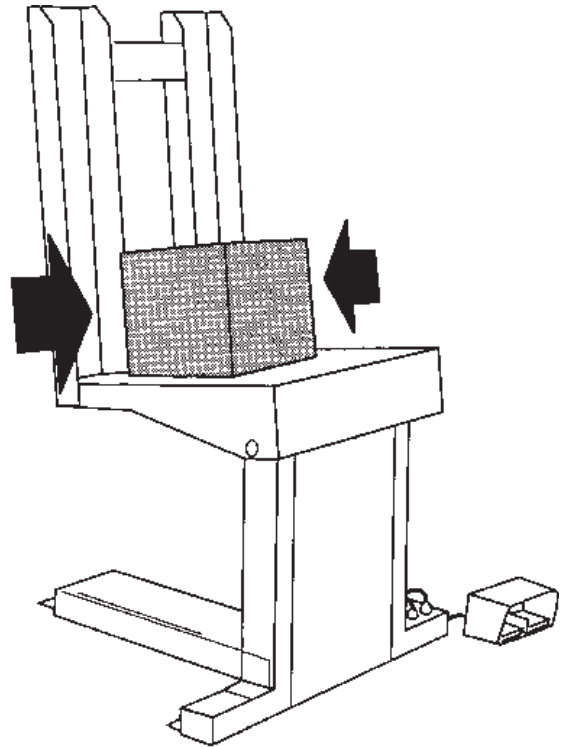

Fig. 6. Center the Load
3. The load should be balanced in the side-to-side direction. Whenever possible, place the load in the center of the tilting platform, as shown in Fig. 6. If the load is off-center on the pallet, place the heaviest part of the load near the back of the tilt platform – never near the front!
2. Before lifting, be sure the parts container is pushed up against the tilt platform, as shown in Fig. 4. Be sure the load is balanced side-to-side, as shown in Fig. 6.